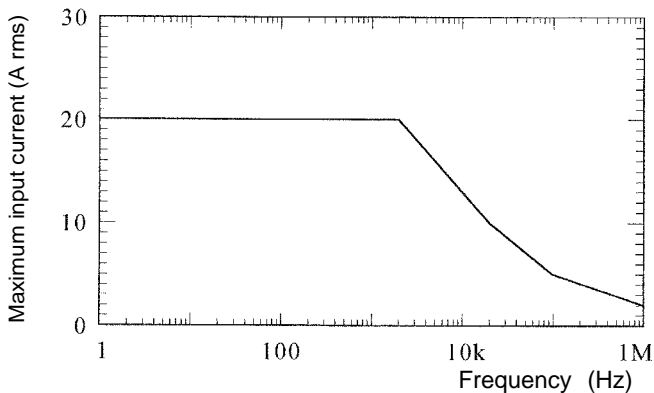

Figure 8 9273 Maximum Input Range
- ◆ Continuous maximum input range 20 A (see Figure 8)